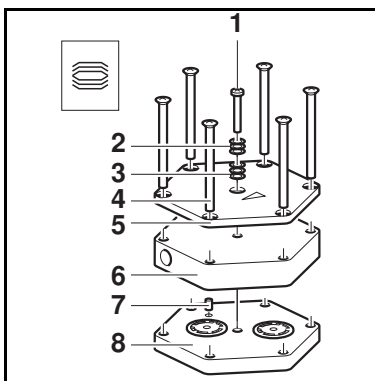

Fig. 24: Refitting pump head
1. For two-headed pumps: On the pneumatic head connection (3), loosen the union nuts (2) by hand. Then slightly loosen the angle-fitting (1) in the pump head (4) by turning it anticlockwise, so that the connecting tube can be pulled out.
2. Mark the position of top plate (fig. 24/5), head plate (fig. 24/6), intermediate plate (fig. 24/8) and adapter relatively to each other by a drawing line (for two-headed pumps: at both pump heads) with a felt-tip pen (1). This helps to avoid incorrect assembly later.
6. Insert screw(s) (1) with disk springs (2, 3) in the center of the top plate (5). In doing so, make sure that the disk springs are arranged properly (see fig. 24).
7. Screw in the screw/screws (1) in the centre of the pump top plate (5) until it is flush with the top plate (they are flush with the top plate); then screw one final half turn to tighten.